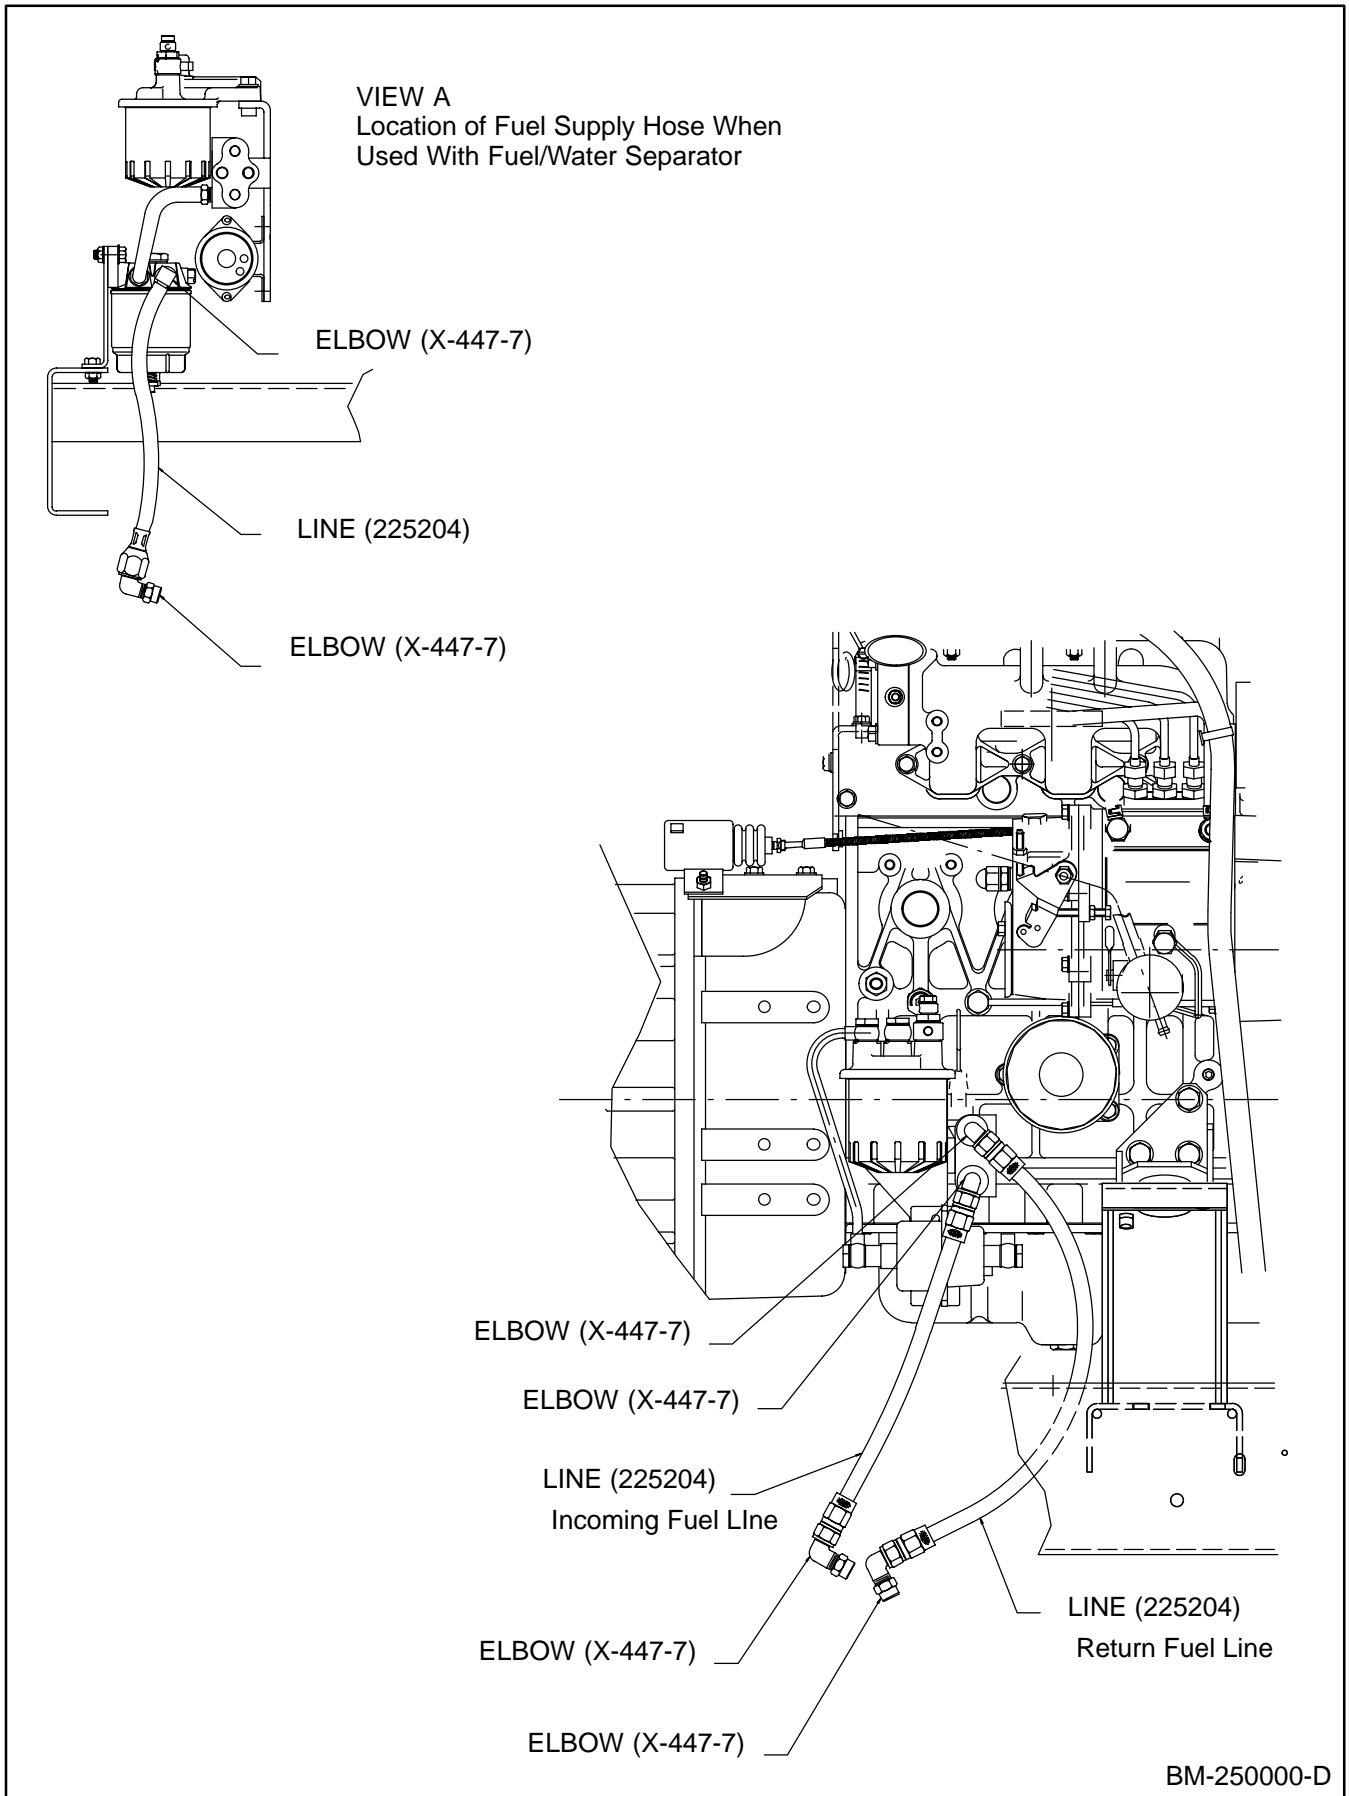

Figure 1. Kit Installation
Use Figure 1 (opposite page) to mount the flexible fuel line.
6. Screw both fuel lines (225204) onto the engine-mounted fuel connectors. Be sure the connections are tight. See Figure 1.
7. Install the fuel inlet line onto the fuel/water separator if it is used. Refer to Figure 1 View A.